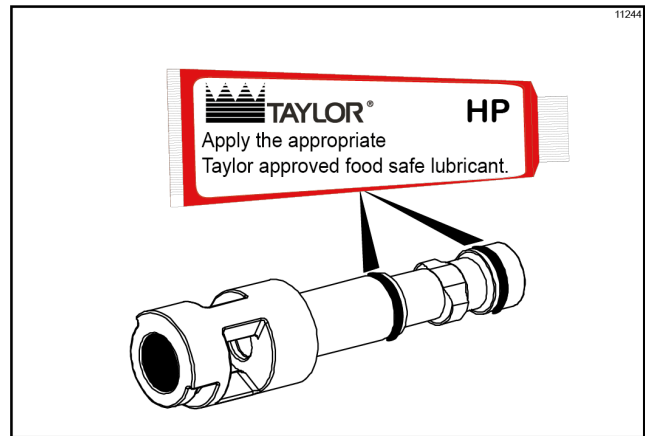

Figure-115
- Assemble the draw valve spinner assembly. Inspect draw valve O-rings for cuts or nicks. (Replace if cut or nicked.) If draw valve O-rings are in good condition, slide the two O-rings into the grooves of the draw valve and lubricate. (See Figure-115.)